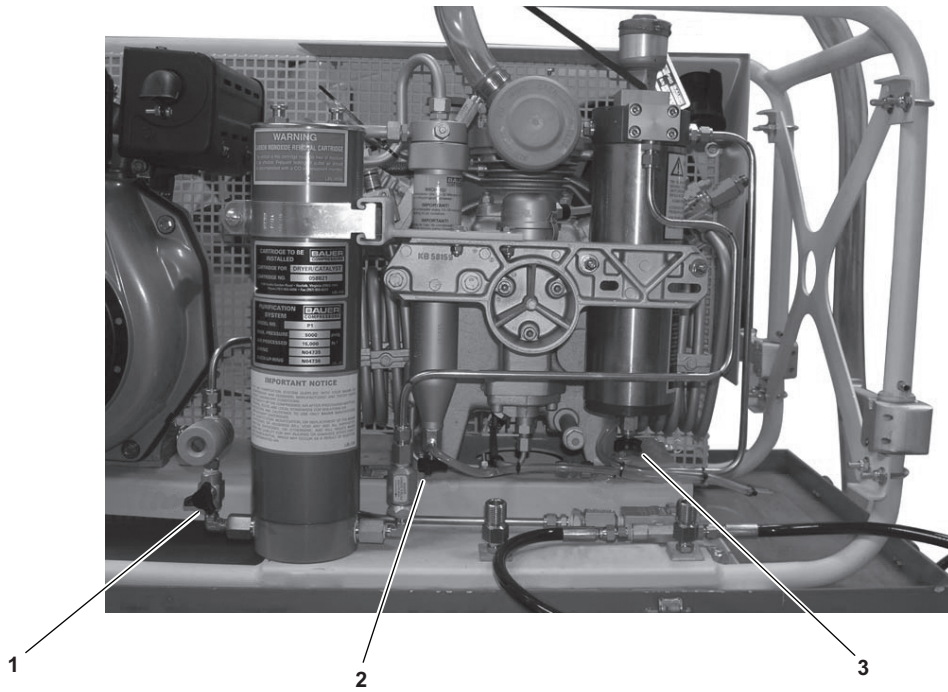

Figure 2-15. P1 Bleed Valve and Intermediate and Final Separator Condensate Drain Valves
- i. Ensure that the P1 bleed valve (figure 2-15, item 1), the intermediate separator condensate drain valve (figure 2-15, item 2), and the final separator condensate drain valve (figure 2-15, item 3) are closed by turning CW.